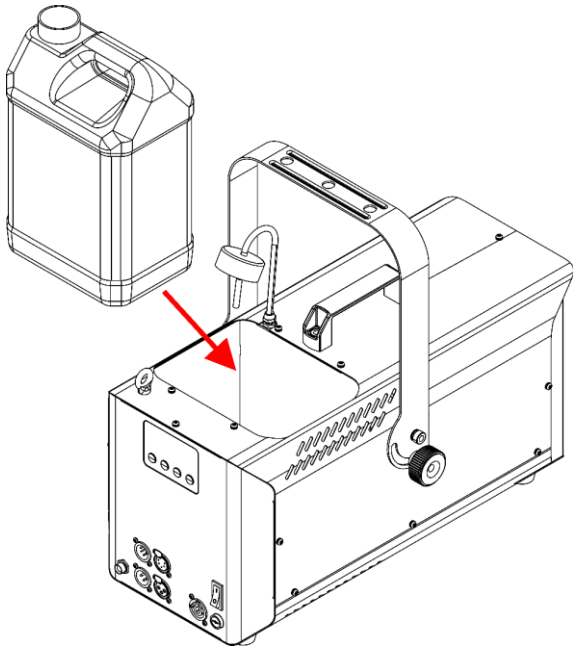

Fig. 12
- 07) Put the fluid tank back in the device, as shown in Fig. 12.